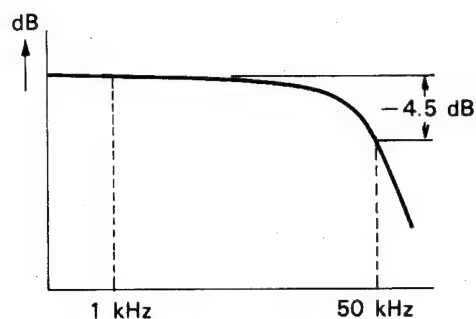

Fig. 15
3. Supplying the 50 kHz signal through the low-frequency oscillator, make sure that the frequency response is more than 50 kHz at 1 kHz for the -4.5 dB . (See Fig. 15.)